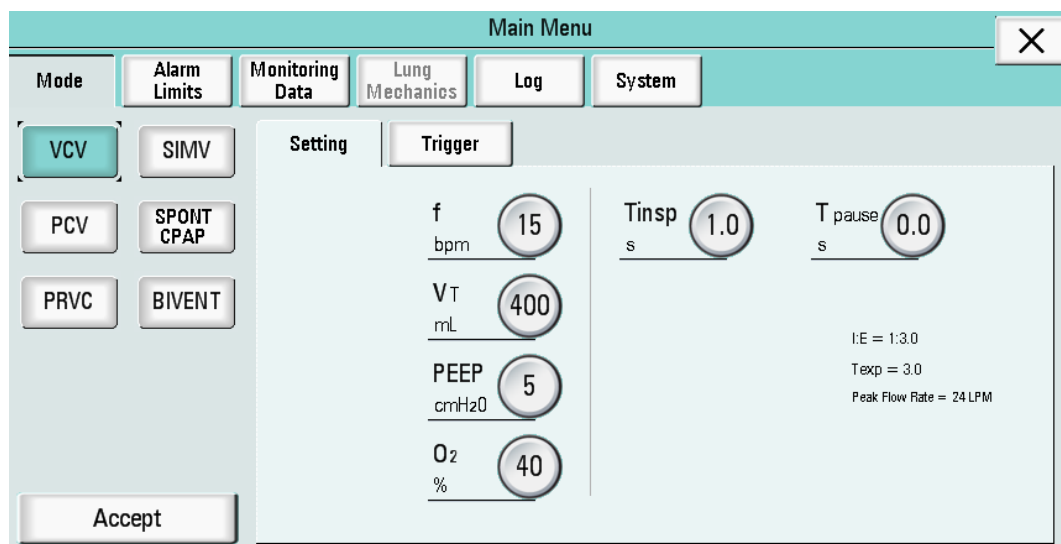

Figure 6-21
Step 3: Click [Accept], now VCV mode is set as the ventilation mode. See Figure 6-21.